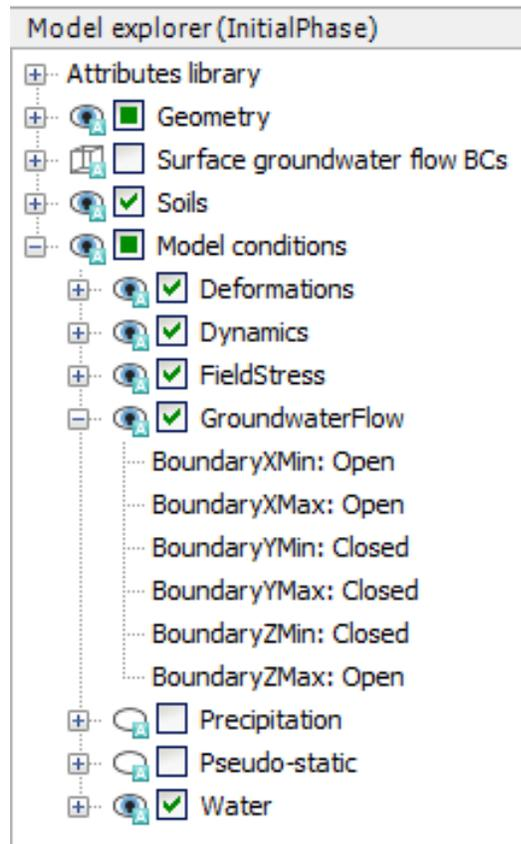

Figure 108: Boundary conditions for groundwater flow
- In the **GroundwaterFlow** subtree set **BoundaryYMin**, **BoundaryYMax** and **BoundaryZMin** to **Closed**. The remaining boundaries should be **Open** (See Figure 108 (on page 135)).